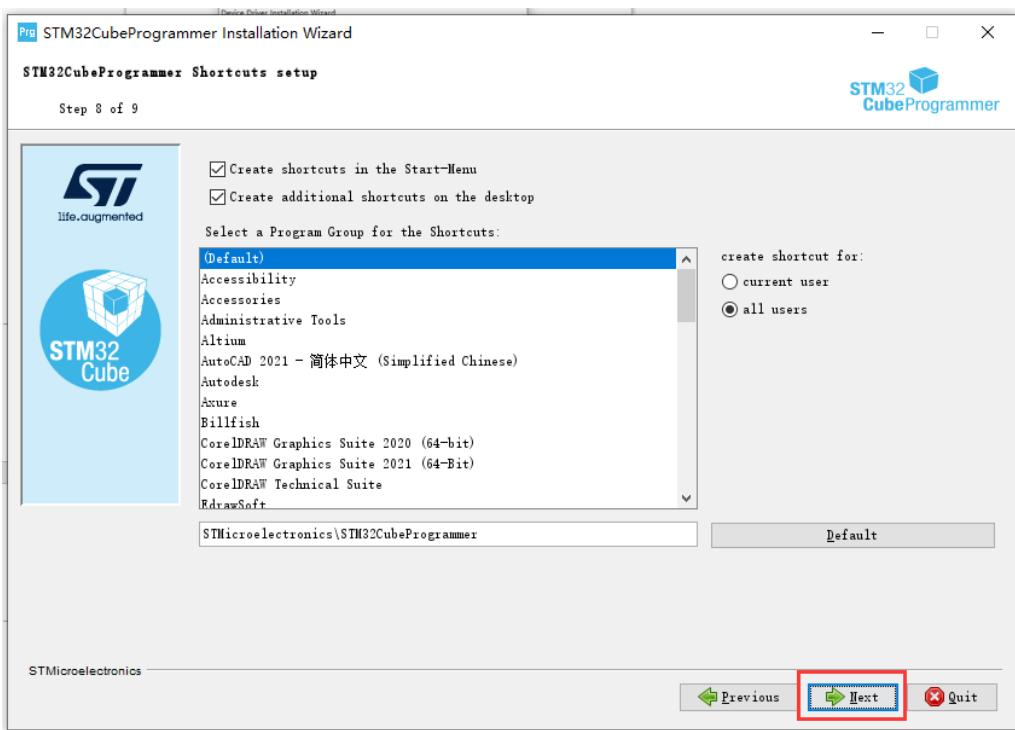

Figure 8-9
- 10) Go ahead and click Next as shown in Figure 8-9: